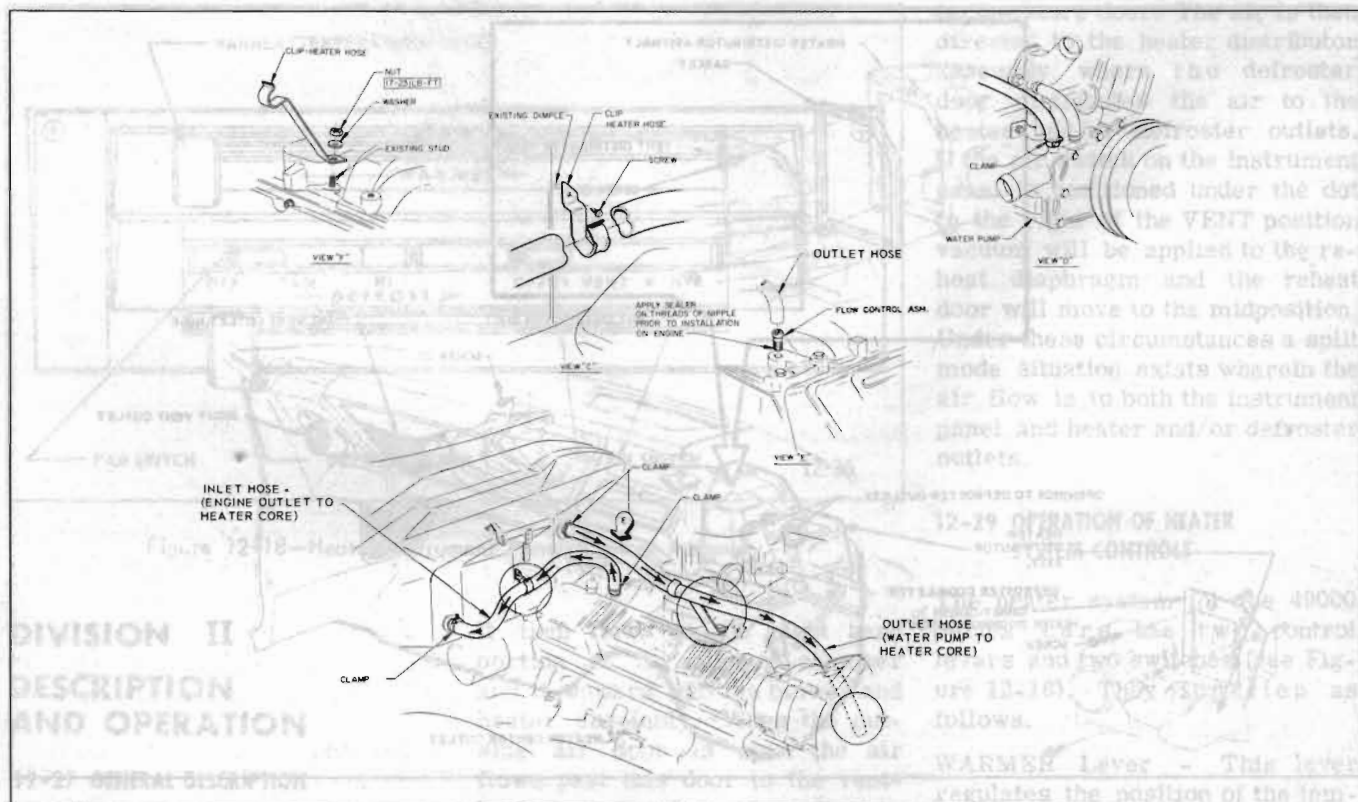

Figure 12-22—Heater Hose Routing (49000 Series)
The flow of coolant through the heater system is as shown in Figure 12-22.
5. Drain radiator and disconnect heater coolant hoses attached to blower and heater assembly (see Figure 12-22).